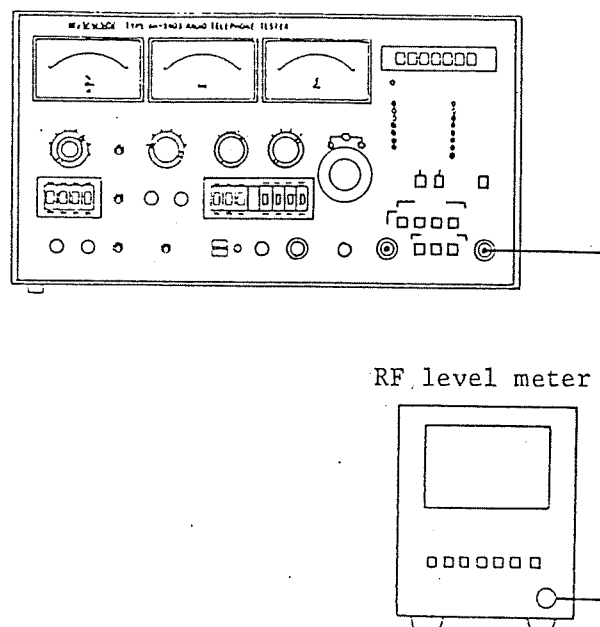

Fig. 3-3 Output level accuracy test
- (2) Bring the output level meter indication to [0 dB $\mu$ ] by turning the output level fine adjustment control [+1 ~ -10 dB $\mu$ ] of this apparatus.
- (3) Connect a RF level meter terminated in 50  $\Omega$  to the [RF INPUT/OUTPUT 50  $\Omega$  MAX. 25 W] connector of this apparatus as shown in Fig. 3-3 and measure the output level of the apparatus.
- (4) Conduct measurement for 25, 250 and 520 MHz.
- (5) For the level meter reading of  $V$  dBu, output level error  $d$  can be calculated by using the equation shown below. Make sure that the calculated error is within  $\pm 2$  dB.